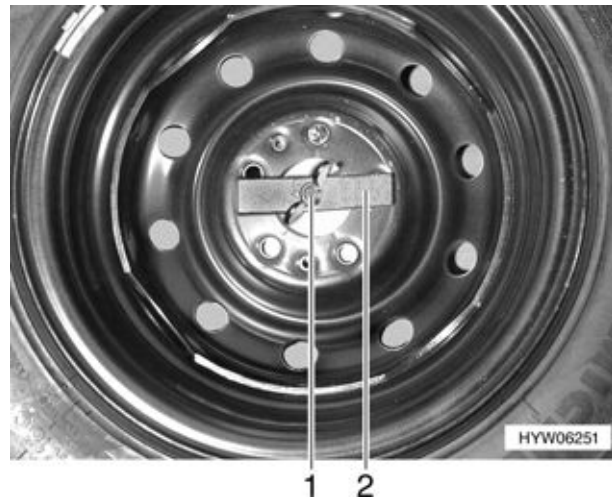

Fig. 194 Spare wheel in the rear storage space (variant 1)
- Loosen the wing nut (Fig. 194,1) and unscrew it.
- Remove the pad (Fig. 194,2).